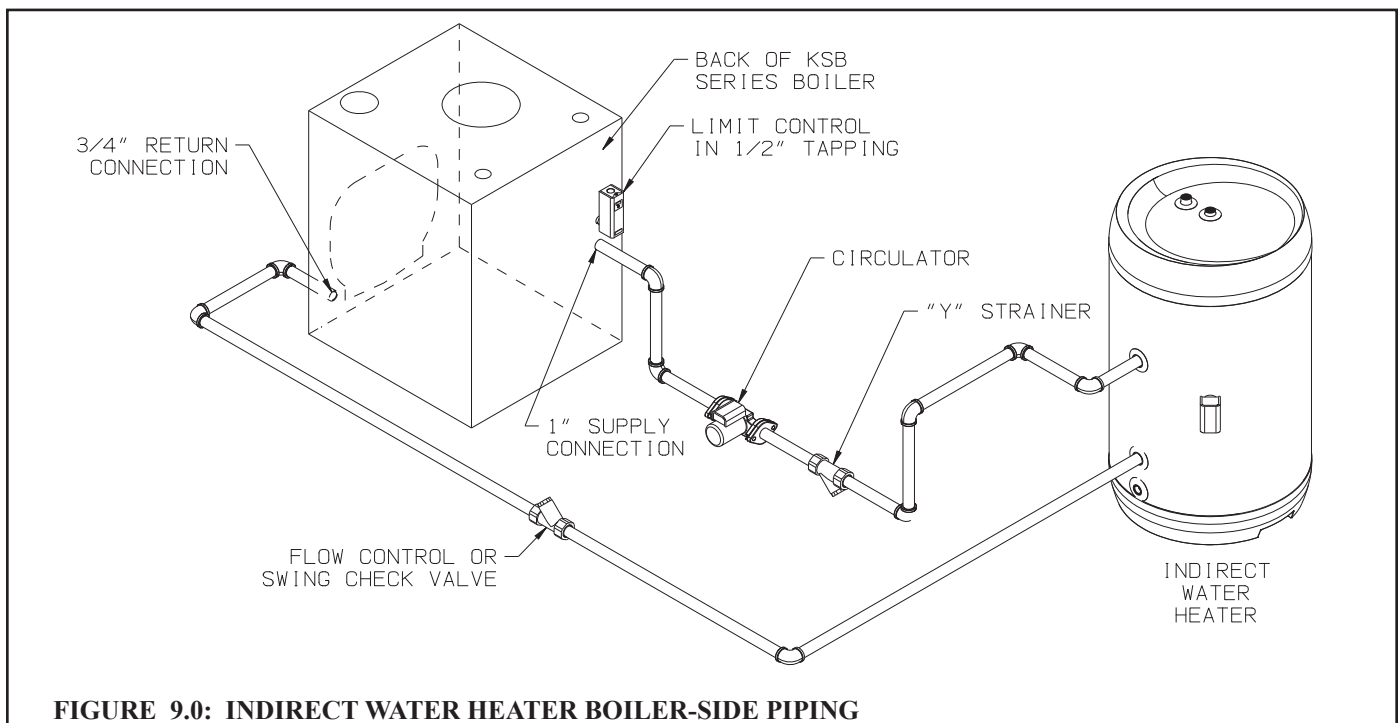

FIGURE 9.0: INDIRECT WATER HEATER BOILER-SIDE PIPING
- 1) Circulator - Mount the circulator as shown in Figure 9.0. The circulator should be located as low and as close to the boiler as practical. Do not install valves, or other devices having a significant pressure drop, between the boiler and the circulator inlet. All piping between the boiler and the circulator inlet should be 1", regardless of the size of the piping required in the rest of the system. See Figure 11.0 in Part XI for wiring information.